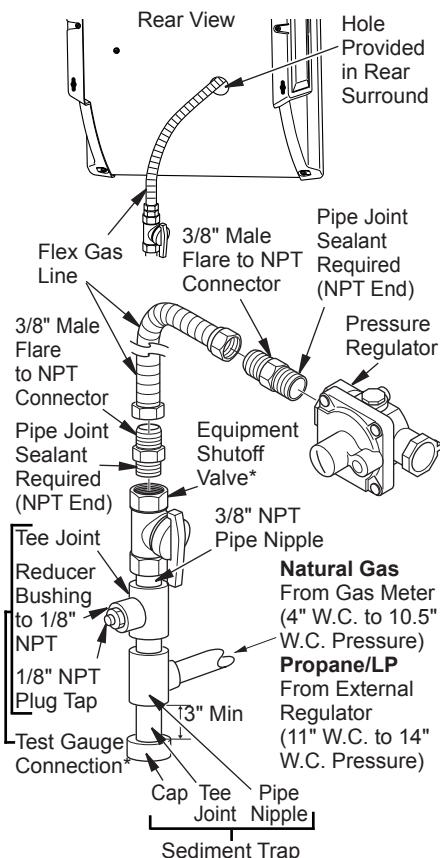

**Figure 10 - External Regulator With Vent Pointing Down**
For propane/LP gas, the installer must supply an external regulator. The external regulator will reduce incoming gas pressure. You must reduce incoming gas pressure to between 11" and 14" of water. If you do not reduce incoming gas pressure, heater regulator damage could occur. Install the external regulator with the vent pointing down as shown in Figure 10. Pointing the vent down protects it from freezing rain or sleet.
1. Remove front panel (see Figure 10, page 9).